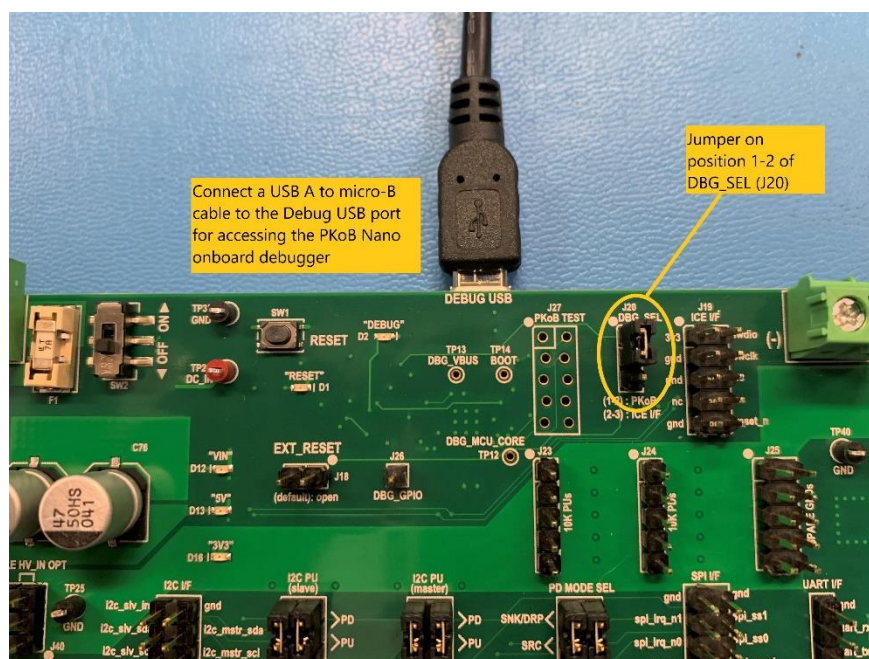

Figure 5.4 Programming using On-board debugger
5. Connect a USB Micro-B cable to “DEBUG USB” which on the top of the board as shown in the figure 5.4 and connect the other end USB Type-A to the laptop for using the on-board debugger for programming